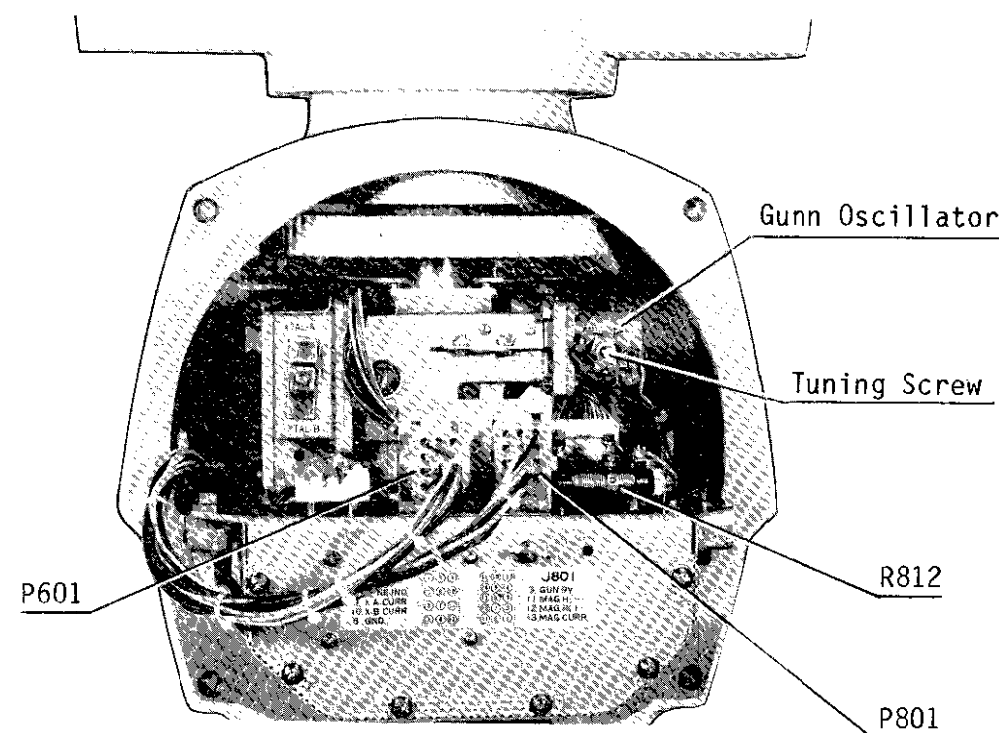

Fig.1-18
The radar should be optimally tuned with the front panel **TUNING** control at mid-travel. If not, adjust the frequency of the gunn oscillator by turning its tuning screw (Fig.1-18) as below.
- 4) Connect a multimeter, set to the DC10V range, between pins #3 (pos.) and #8 (neg.) of P601 (Fig.1-18).
2. Connect the multimeter set to the 10V DC range, between P801 #12(positive) and #11(negative). See Fig.1-18.
3. Adjust the position of the sliding contact of R812(Fig.1-18) for multimeter reading of 7.0V to 7.6V.